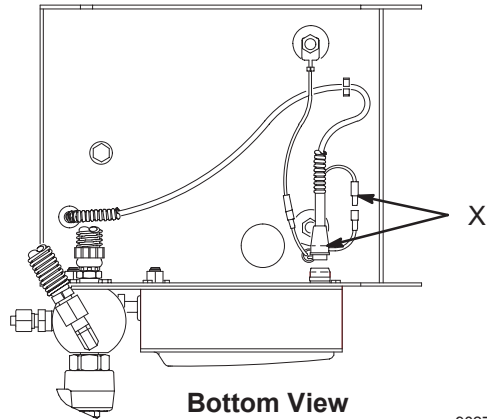

Fig. 5 9027A
11. Fig. 5. Connect field cable (X) to pressure control and engine lead.